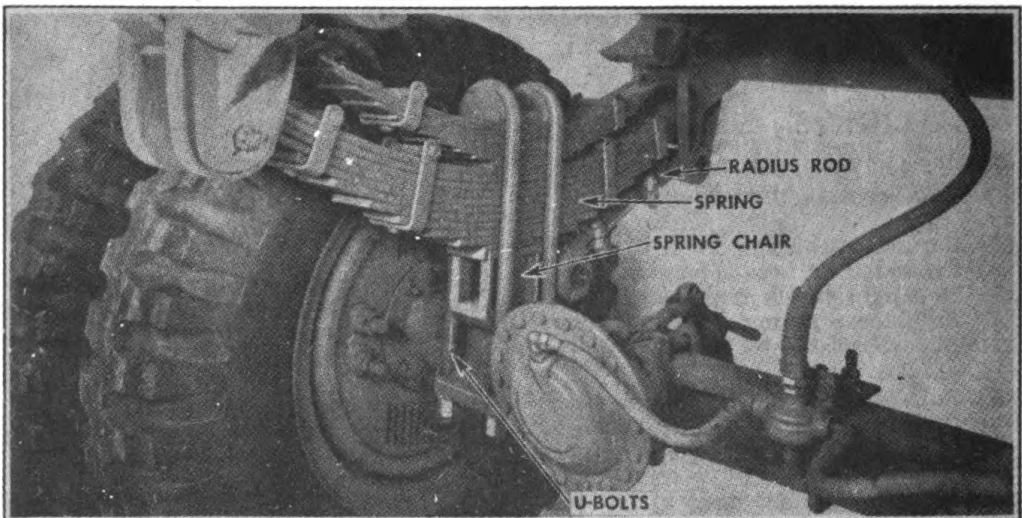

FIGURE 44. SPRING REMOVAL
5. **SPRING HANGERS.** (Fig. 44.)—*a.* Spring hangers and auxiliary spring brackets can be replaced without removing gear frame from main frame.
b. Front spring hanger removal.—(1) Remove the front end of radius rod from hanger. (See Radius Rods, paragraph 9, this section.)
1. **REMOVING SPRING** (Fig. 44).—*a.* This can be accomplished without removing the wheel or hub assembly from axle.